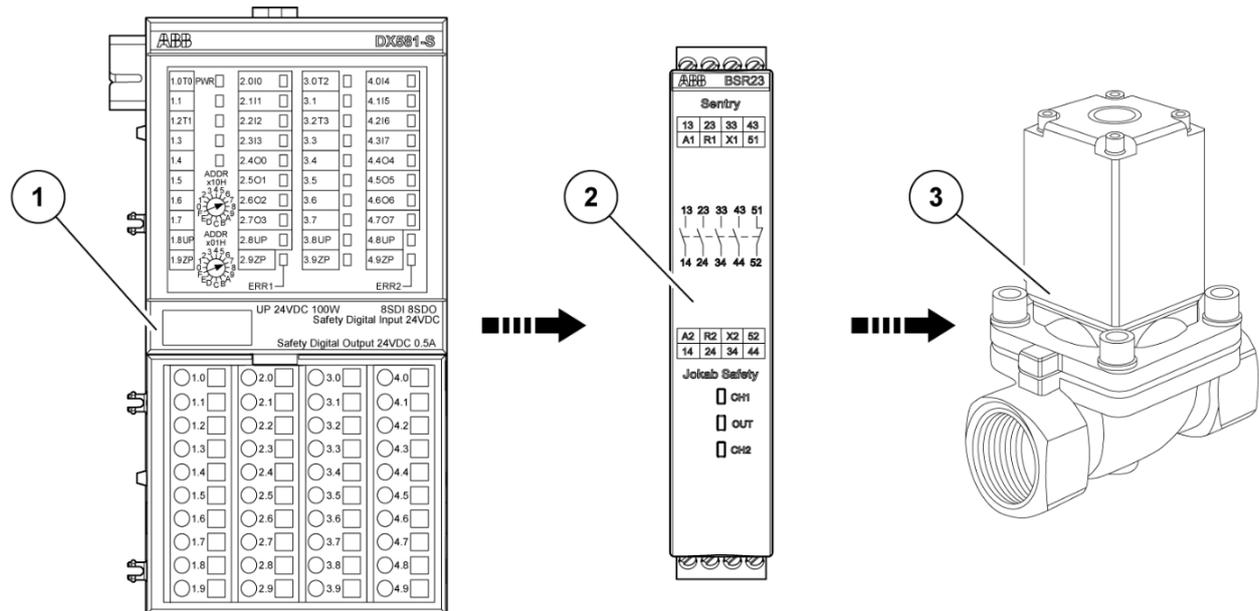

Fig. 1: The BSR23 extends the safety outputs of the DX581-S to control a safety device.
The potential-free control of safety actuators with the DX581-S safety I/O module requires an external safety relay, as shown in Fig. 1 To use the DX581-S safety I/O module with the AC500-S safety PLC, you have to create a valid system setup as described in [1] and [2].
In the example in Fig. 1, the BSR23 safety relay (2) allows the DX581-S safety I/O module (1) to control a safety solenoid valve (3).